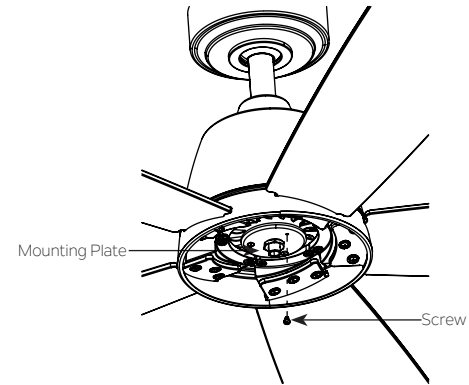

Fig. 19
Step 1. Remove one of three screws which preinstalled on mounting plate and keep for later use. Loosen the other two (do not remove). (Fig. 19)